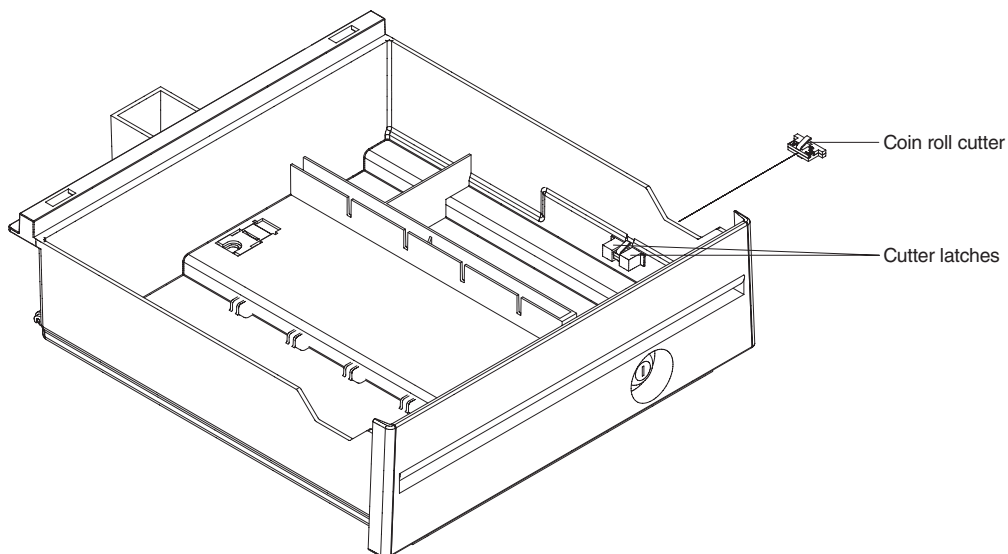

Figure 88. Removing the coin-roll cutter
3. From inside the drawer, squeeze the cutter latches together with your fingers and push the cutter outward until it can be removed from the outside (see Figure 88 on page 112).